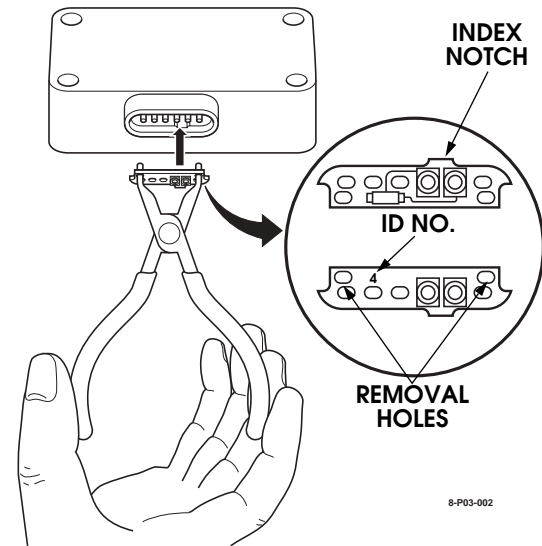

Figure 3-17: Calibrating Resistor Transfer
9. Remove the calibrating resistor (Figure 3-17) from the Fuel Solenoid Driver using special pliers (Klein D319B or Stanadyne 30858).
CAUTION: The Calibrating Resistor is specific to the injection pump. Do not damage the resistor. The calibrating resistor identification number is located on the front of the Calibrating Resistor (Figure 3-17).
1. Install the calibrating resistor in the new Fuel Solenoid Driver using the special pliers (Figure 3-17).